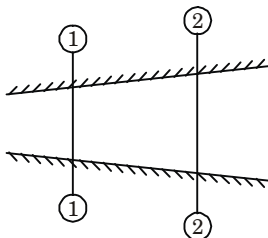

Fig. 2.5.1. Fluid flow through a pipe.
1. Consider two cross-section of a pipe as shown in Fig. 2.5.1.